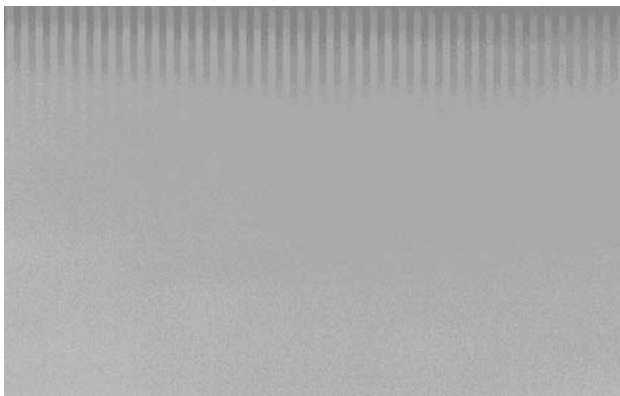

Figure 1. Example of Vertical Stripes
2. Stripes are visible primarily in the top or bottom of image (as in Figure 1).